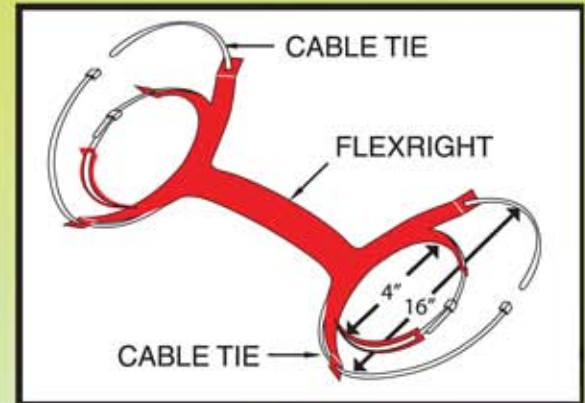

Figure 1
2. Thread cable ties through each FlexRight flexible duct elbow arm. (Fig 1) Do not fasten (connect) cable ties, yet.
**Step 2.** Thread cable ties through both FlexRight saddle bands. Fits all Flexible duct sizes 4" through 16". (See Figure 1)